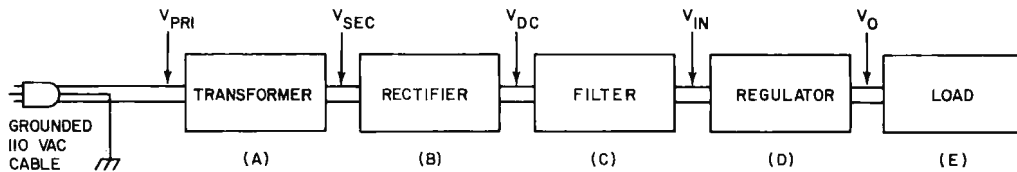

Figure 1: The Power Supply as a System. This is a block diagram identifying the conceptual divisions of a typical power supply system.
be reconstructed if it is to resemble the original data (see figure 1).
Figure 1: Timing of a Direct Digital Read Operation. The flux on the tape is shown at the top as an idealized square wave. The playback voltage is second from top, an analog function which reflects the actual tape flux zones and the sensing of these zones through the tape head. Referring to the schematic of figure 3, the positive going and negative going transition edges are detected and used to produce pulses which drive the 7474 flip flop used to reconstruct data as received. This data out of the 7474 is read and decoded by the adaptive software running in the processor.
The basic function of a power supply can be segregated into five components as shown in figure 1. These are stepping the line voltage to a lower more desirable value (A), changing the alternating current to a direct current (B), filtering the DC (C), making sure the voltage is held constant under adverse conditions (D), and distributing the current to the device to be driven, called the load (E). The symbols given to the voltages at each point are listed in table 1 to avoid confusion.